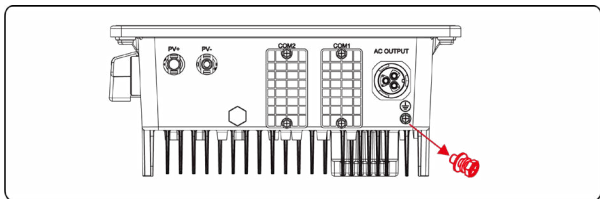

Figure 5.3 Crimping a cable (unit: mm)
Step 3 Remove the ground screws from the ground points, as shown in **Figure 5.3**.